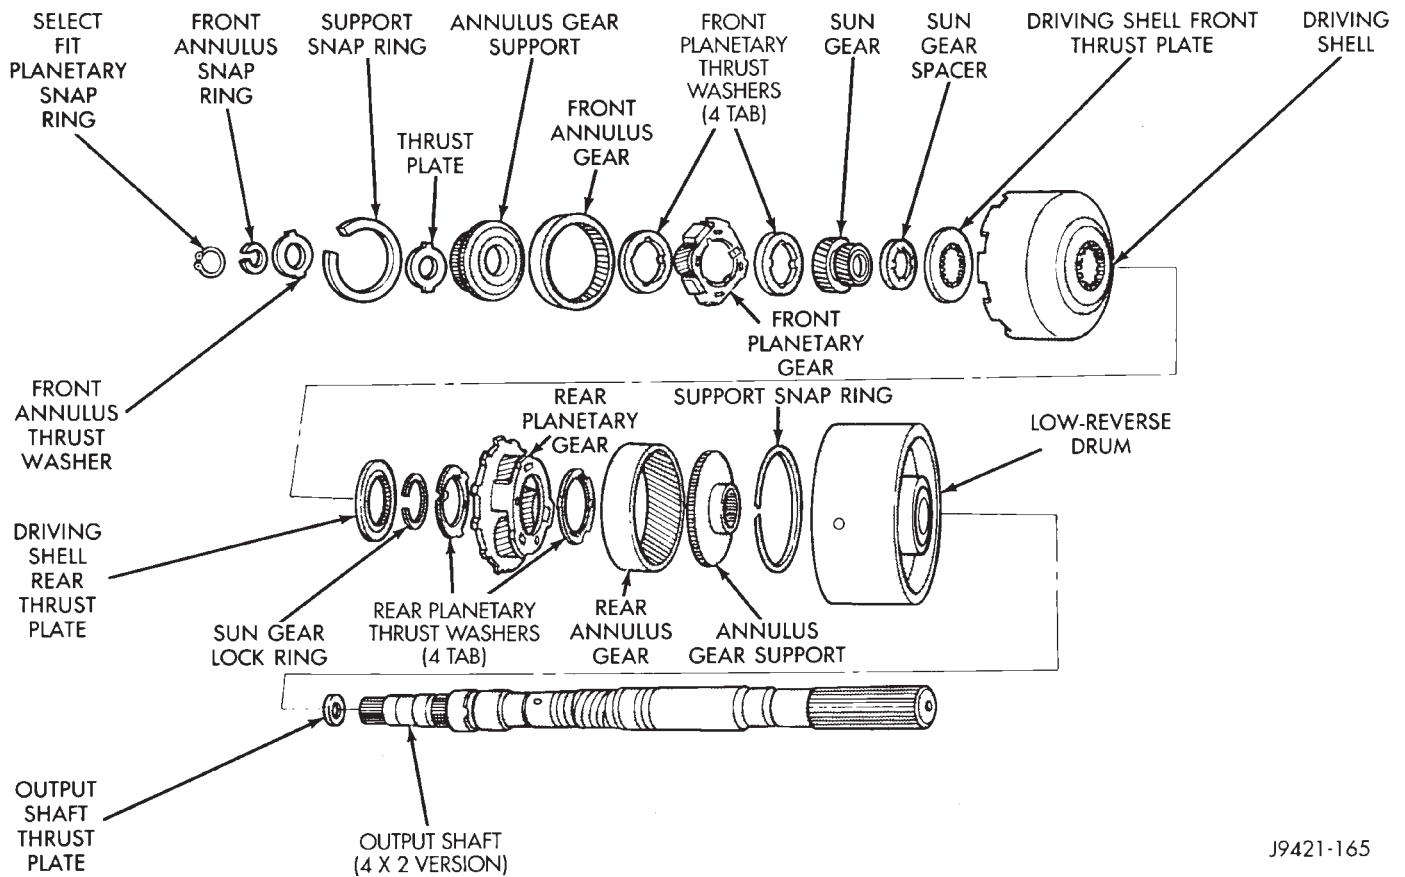

Fig. 79 Planetary Geartrain Components (30RH/32RH)
Check sun gear and driving shell condition (Fig. 79). Replace the gear if damaged or if the bushings are scored or worn. The bushings are not serviceable. Replace the driving shell if worn, cracked or damaged.
Inspect the geartrain spacers, thrust plates, snap rings, and thrust washers (Fig. 79). Replace any of these parts that are worn, distorted or damaged. Do not attempt to reuse these parts.
(3) Install rear thrust washer on rear planetary gear (Fig. 79). Use enough petroleum jelly to hold washer in place. Also be sure all four washer tabs are properly engaged in gear slots.